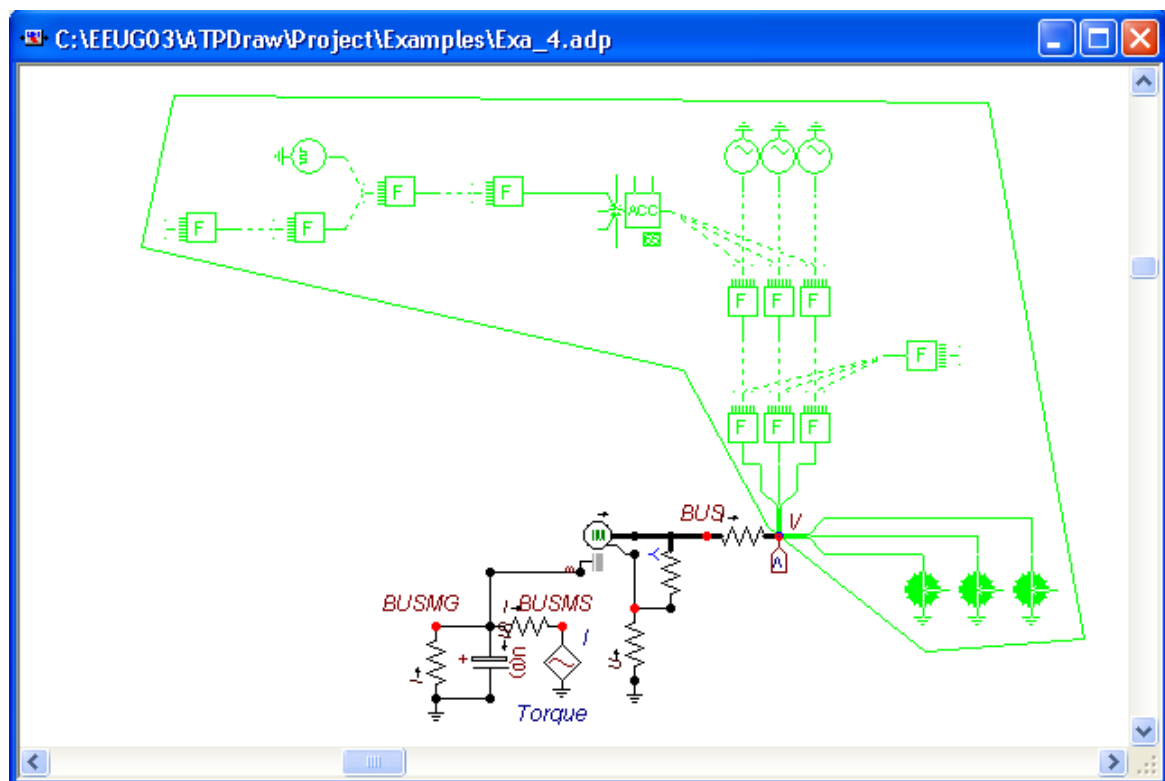

Fig. 5.1 - An induction machine supplied by a pulse width modulated voltage source.
- Select a group of components (inside the polygon in Fig. 5.1). *Edit/Select/Inside*.